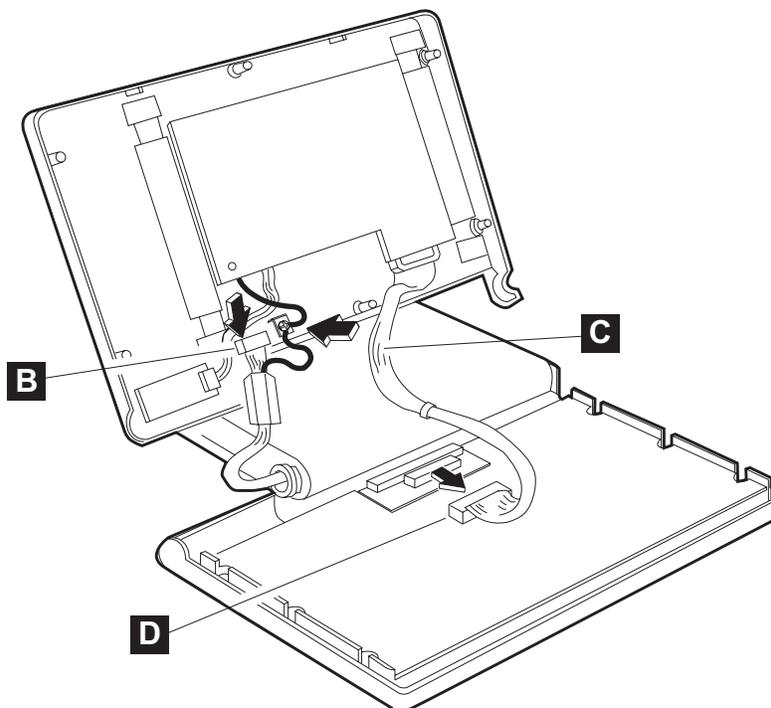

Figure 63. Removing the screws
3. Disconnect the connector to the VFD assembly at the end to the logic board (**B** in Figure 63 on page 64)
3. Disconnect the cable from the keyboard matrix unit (**D** in Figure 63).